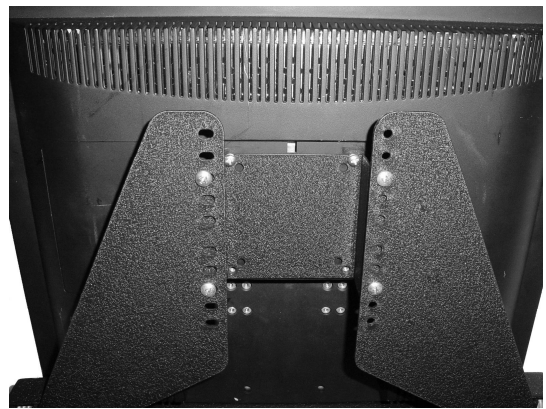

Figure 5. Install Monitor to Stand
4. At the desired height, secure your monitor to the stand using four provided 10-24 x 3/8" Phillips head screws (see Figure 5).